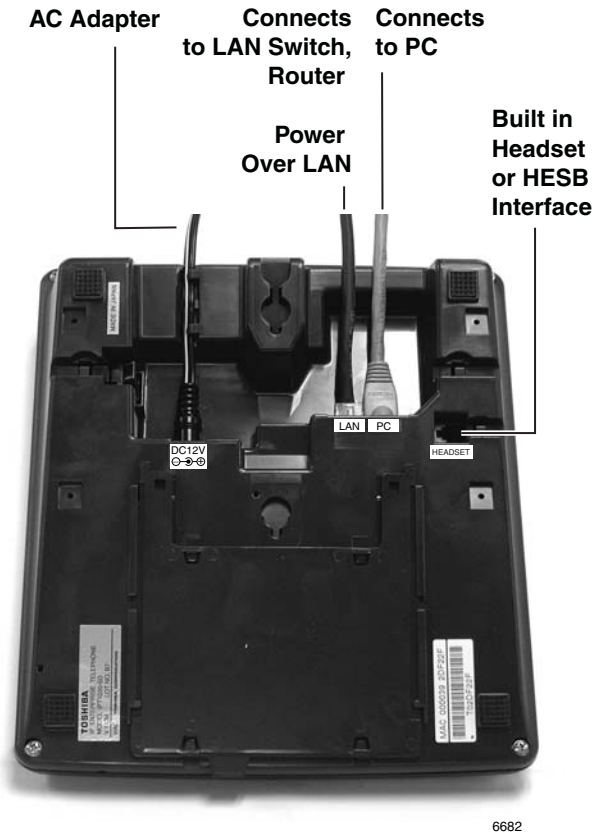

Figure 9-3 IPT Connections
3. Connect the other end of the telephone LAN cord to the LAN or server (see Figures 9-3 and 9-8.)